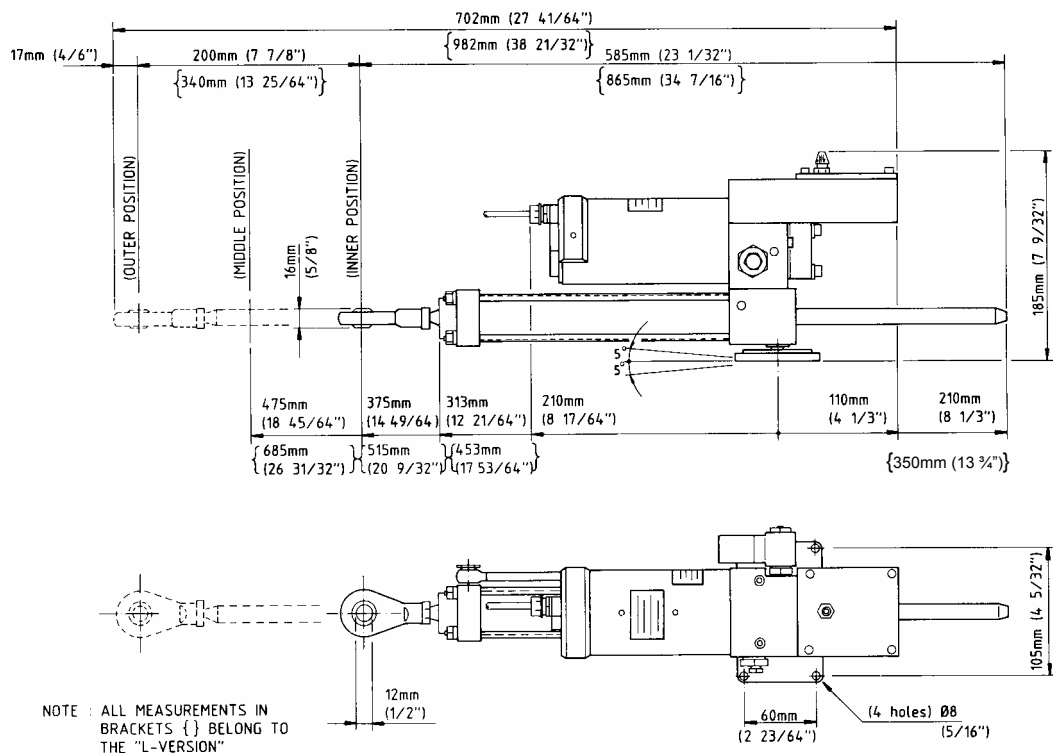

Figure 1 HLD dimensions (shown with Fracmo motor)
- Rev. B Added measurement on figure 1. Adjusted figure 5.
- Dimensions: See fig. 1
Caution ! *Do never install the unit upside down! (The air valve should be facing upwards.) The HLD must be installed horizontally only. No more than ±5 degrees tilt is allowed at any position, as illustrated on figure 1. The HLD should not act as an end stop for the rudder.*
HLD må aldri monteres opp ned! (Lufteventil på tank skal peke oppover). Enheten må monteres horisontalt, og slik at avviket fra horisontalplanet aldri overstiger ± 5 grader, slik som illustrert på fig. 1. HLD må ikke monteres slik at den fungerer som endestopp for roret.